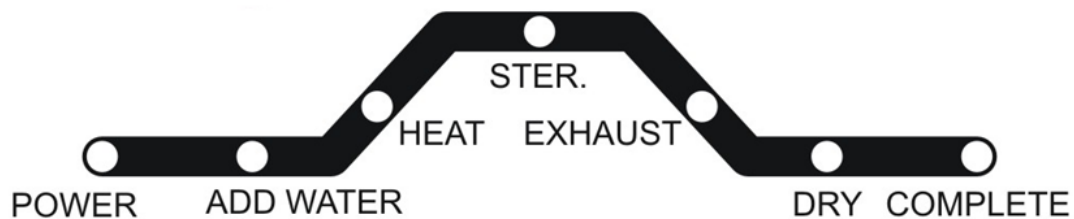

Figure 16
G.4 Press the START Button  and the sterilizer will automatically run through the selected program. The current progress of the sterilization cycle is indicated by the illuminated LED on the Process Status Indicator (Figure 16).